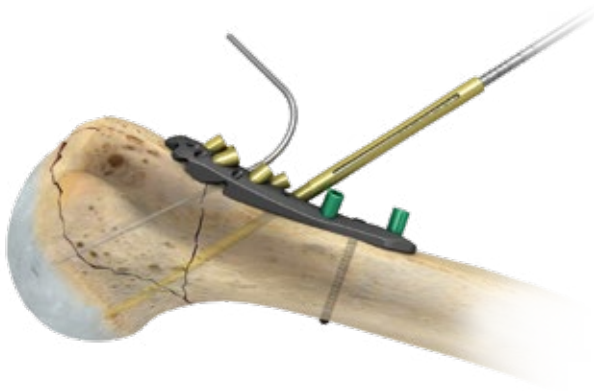

Figure 20
- Before removing 3.2 mm Drill Bit, slide drill sleeve against the F.A.S.T. Guide Insert (Figure 20)
- Advance the drill through the F.A.S.T. Guide Insert, stopping when resistance is felt from subchondral bone (Figure 20)